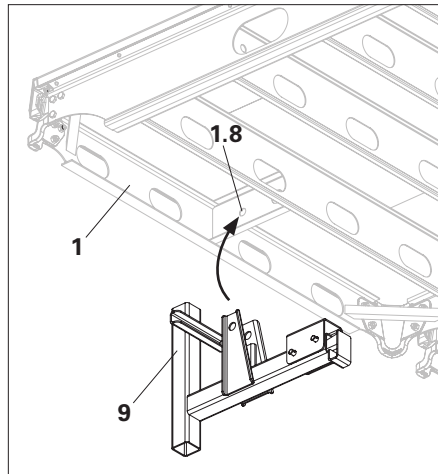

Fig. A9.01
- Place the Guardrail holder (9) into the stiffener hole (1.8) of the panel. (Fig. A9.01)